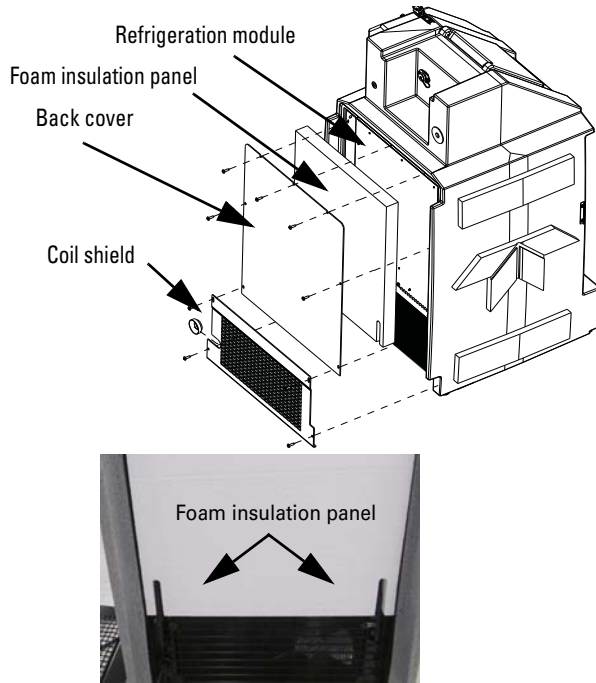

Figure 19: Back cover and insulation panel
5. Reinstall the coil shield, back cover, and insulation panel (Figure 19). When installing the foam insulation panel, take precautions not to damage the foam around the tubing (see inset Figure 19).